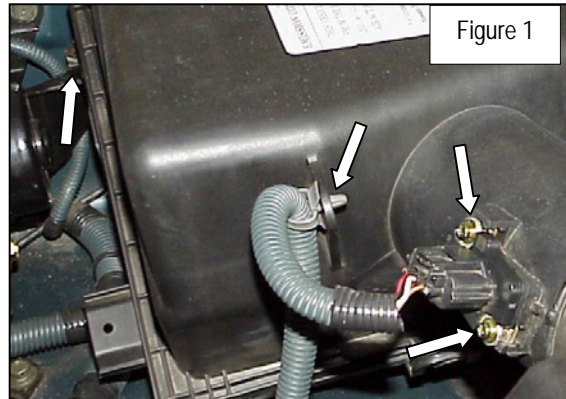

Figure 1
3. First begin by disconnecting your MAS by unbolting 2 screws on your stock air box tube (fig.1). Set aside carefully as it will be reused. At this point you can also unclip the MAS harness from the air box as well (fig.1)
4. Next remove the stock air box by unbolting it from the mounting point in the rear (fig.1). Loosen the flex hose for easier removal.